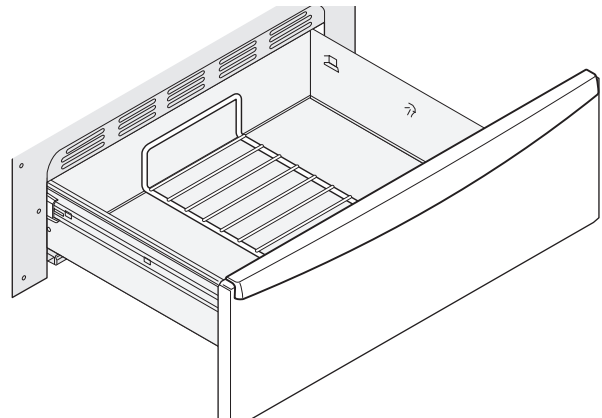

Figure 45: Warmer drawer rack in downward position
- In the **downward position** (Figure 45) to allow for light weight food items and empty cookware (for example, rolls or pastries and dinner plates) on the rack.